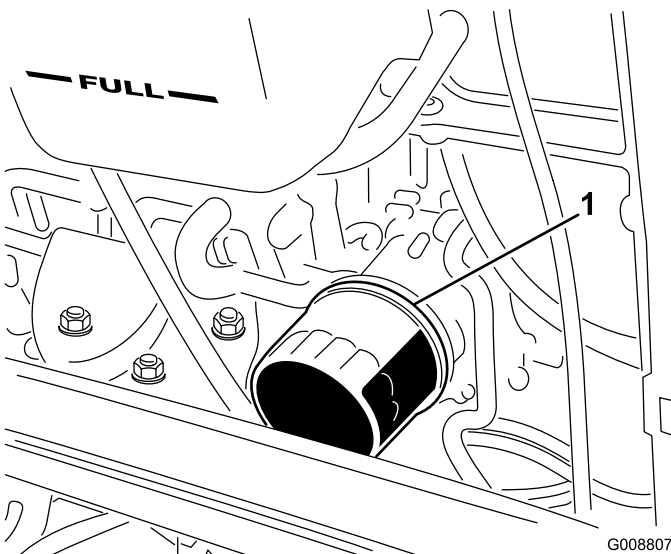

Figure 59
2. Remove the oil filter (Figure 59). Apply a light coat of clean oil to the new filter seal before screwing it on. Do not overtighten.